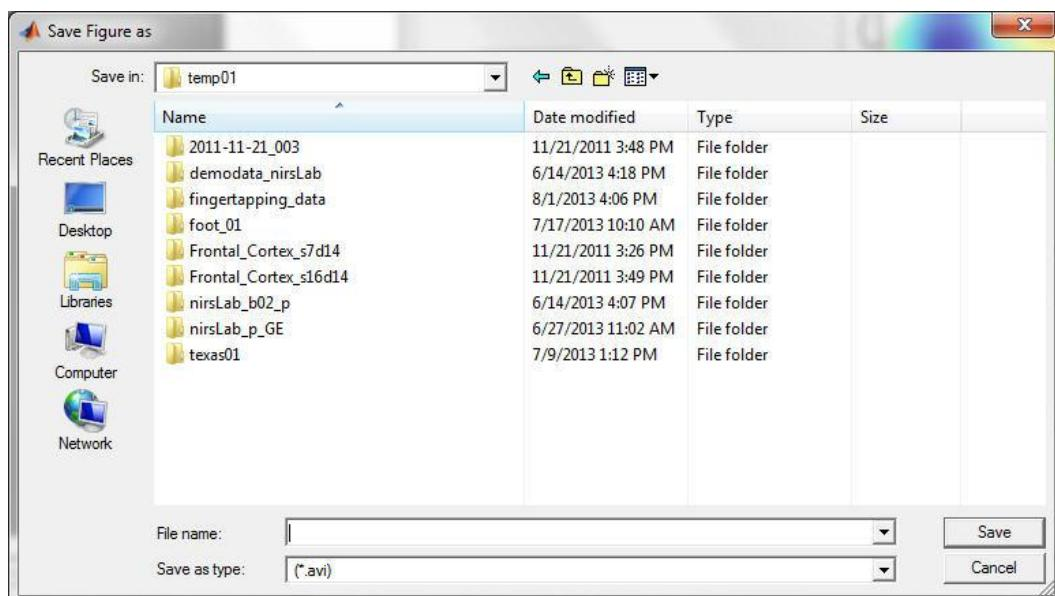

Figure 5-71. Specifying the file name and folder for the saving animation.
Step 3: Click the **OK** button in the text field window to open a browser window for saving the animation, as shown in Figure 5-71.